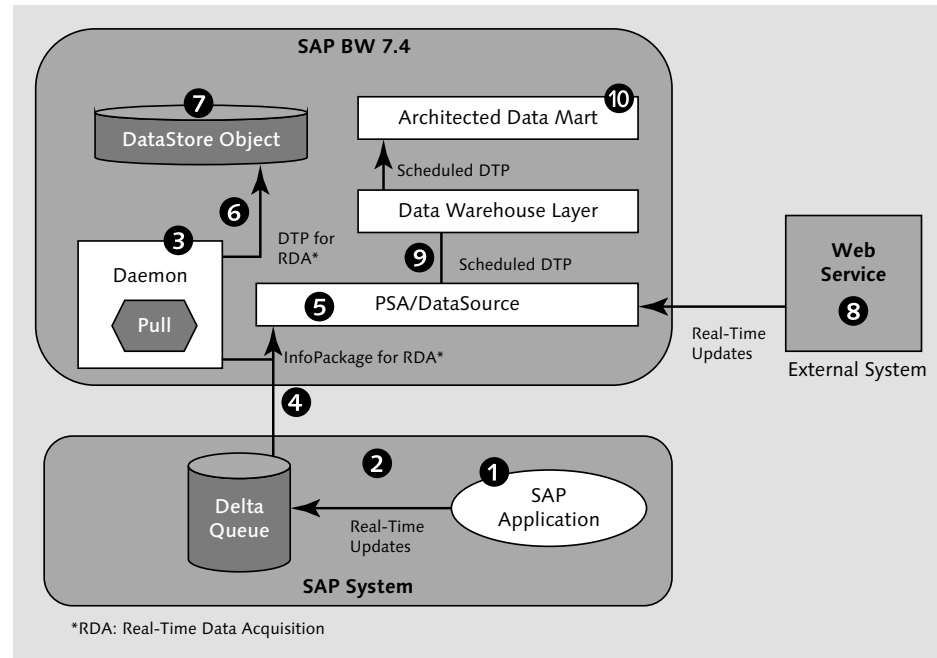

Figure 6.60 RDA Architecture
As shown in Figure 6.60, there are two ways to get data in real time: via the SAP source system and via external systems.
When data is accessed from the SAP source system, the SAP application (❶ of Figure 6.60) updates the data in the delta queue (❷) in real time. The daemon (❸) in SAP BW starts the InfoPackage for RDA (❹) at a defined interval, which can be